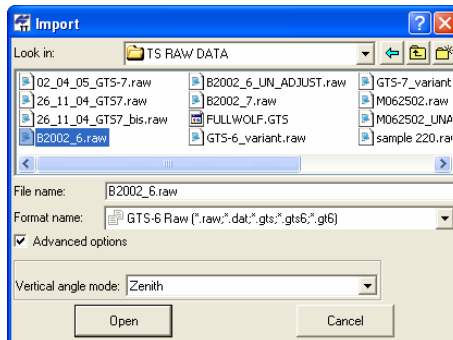

Figure 3-29. Import TS Obs File
4. Set the desired *Advanced* options (Figure 3-29 on page 3-27): define the projection type, grid->ground transformation parameters, coordinate order, and type of vertical angle if known.